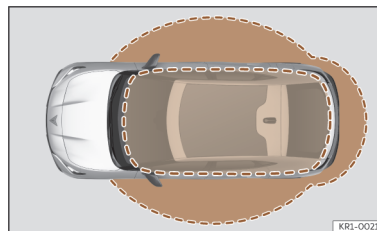

Fig. 68 Keyless Access: proximity zones.
- The vehicle is unlocked when the vehicle key is detected nearby >>> Fig. 68. All turn signals flash twice.